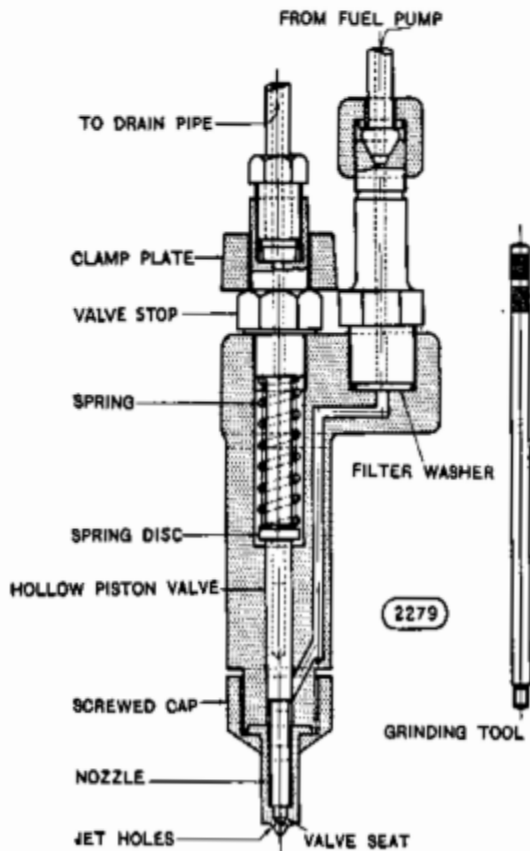

Fig. 17. Section through Fuel Sprayer
44. **FUEL SPRAYERS.** Illustrated in Fig. 17 the sprayer will be seen to be a very simple and robust piece of apparatus, and is designedly made non-adjustable, meaning that when the sprayer is re-assembled after being taken to pieces for cleaning or examination (as distinct from overhauling), it requires no adjustment of any kind. The sprayer may be said to be one of the most important components of the engine: its function is to receive the minute fuel charge and to convert it into a fine spray. To this end, the fuel charge is forced through fine passages which would be liable to become choked with any foreign matter which may find its way into the fuel were it not for the ample precautions taken by the makers to avoid this contingency. These are mentioned in paragraphs 26 and 28, Page 30.